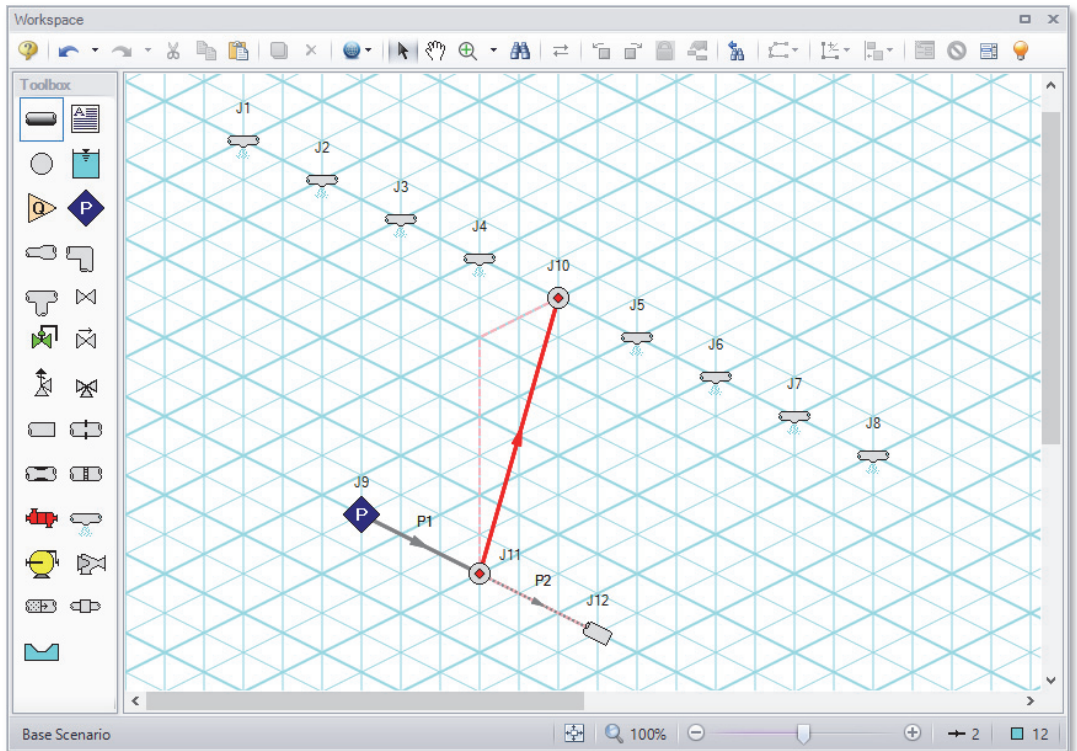

Figure 3.11 A preview line shows when drawing or adjusting pipes
11. Draw Pipe 3 from J11 to J10. A red-dashed preview line will show how the pipe will be drawn on the isometric grid. As you are drawing a pipe, you can change the preview line by clicking any arrow key on your keyboard or scrolling the scroll wheel on your mouse. Figure 3.11 shows Pipe 3 being drawn with the preview line.